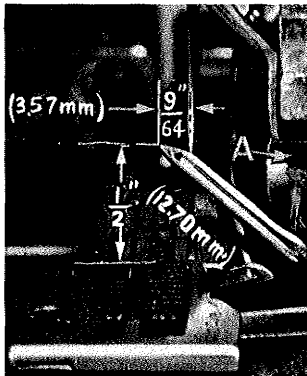

Fig. 11
Next, turn handwheel until looper is at the left end of its travel; check dimensions of upper looper point with respect to needle and throatplate (Fig. 11). If resetting is necessary, do it by moving the upper looper holder (A, Fig. 11). Figure 11 represents the dimensional setting for Styles 39500 QS, QT, RT, TM and TT.
If it becomes necessary to move looper thread pull-off (AF), be sure to take up all end play in needle drive shaft before tightening. If upper looper is located so that it is higher over throat plate than recommended in (Fig. 11), the purl will tend to form near top edge. If upper looper is too low, the purl will form nearer bottom edge.